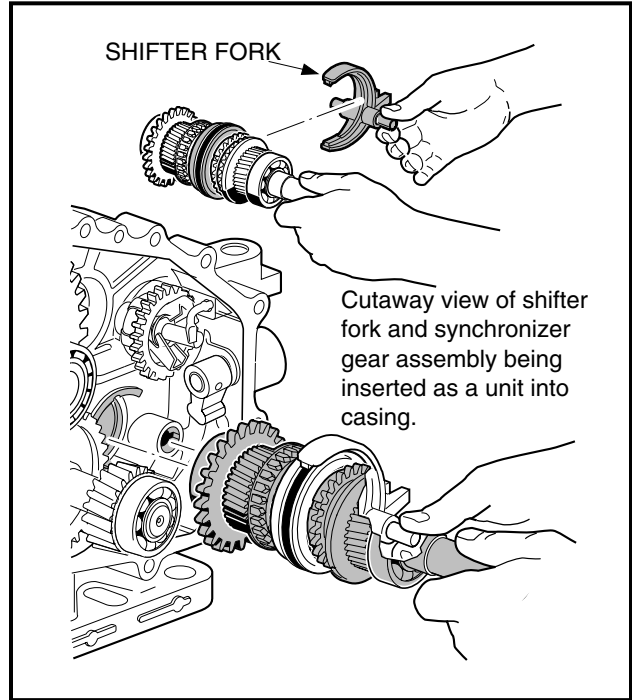
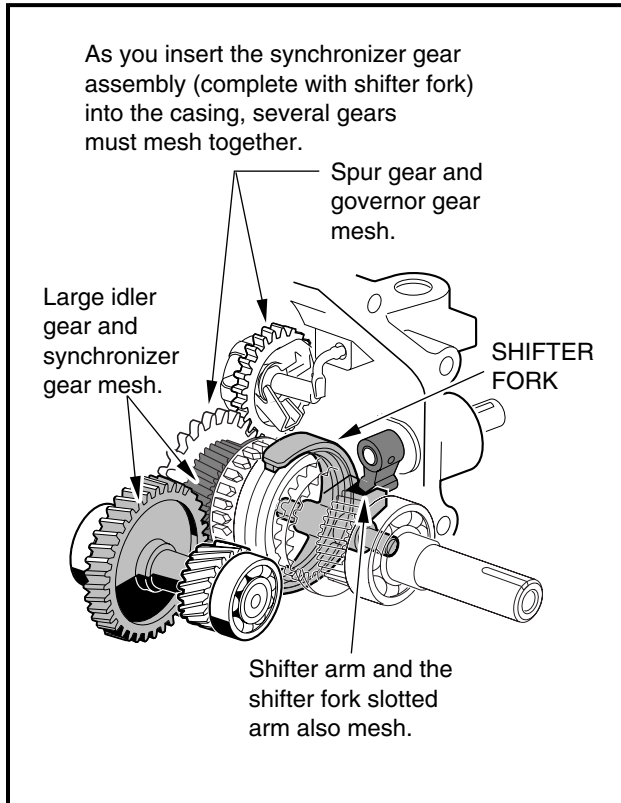

Figure 5-48 Synchronizer Ring Gear
Figure 5-49 Gear Alignment
- 7.4. Position the shifter fork assembly on the synchronizer gear assembly, then install them together, bearing end first, into the bore containing the oil guide (**Figure 5-48, Page 5-24**). Do not seat the assembly, instead make sure the spur gear (40) is meshed with the governor gear (63) (**Figure 5-11, Page 5-7**), and that the shifter lever (14) (**Figure 5-3, Page 5-3**) is positioned in the bracket on the shifter fork. **See also Figure 5-49, Page 5-24.**